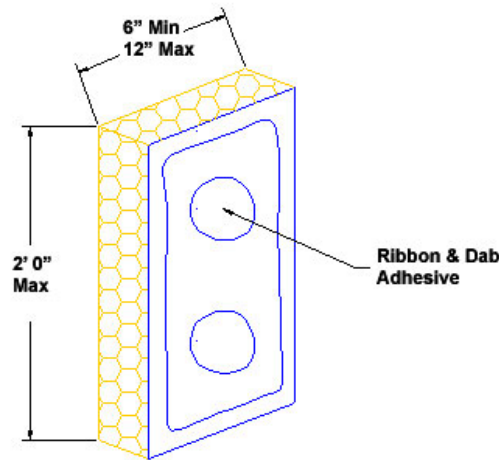

Figure 23
- c. Apply the adhesive mixture to the back side of the I.S. Closure Blocks using a ribbon and dab pattern as shown in Figure 23 and position on the wall.
- f. Apply the adhesive mixture to the back side of the I.S. Closure Blocks/Starter Strips using a ribbon and dab pattern as shown in Figure 23 and position on the wall.